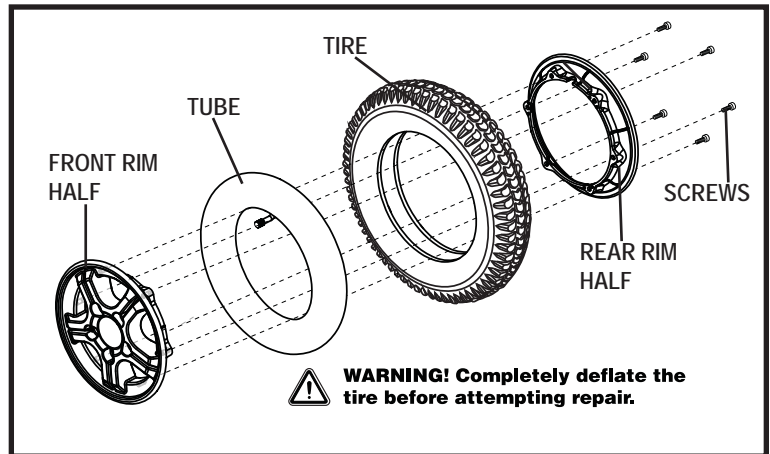

Figure 20. Quantum 6000Z Series Drive Wheel Disassembled
6. Remove the screws and separate the front and rear rim. **See figure 20.**
10. Reinstall the five (5) lug nuts onto the wheel hub and tighten.